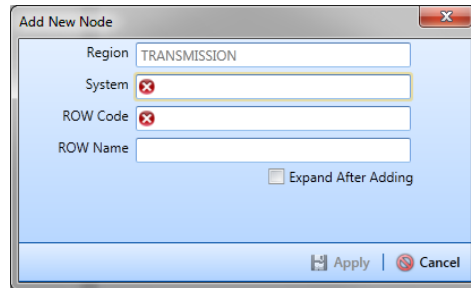

Figure 4-2. Add New Node
- 3 Click **Add** to open the *Add New Node* dialog box (Figure 4-2, page 129).